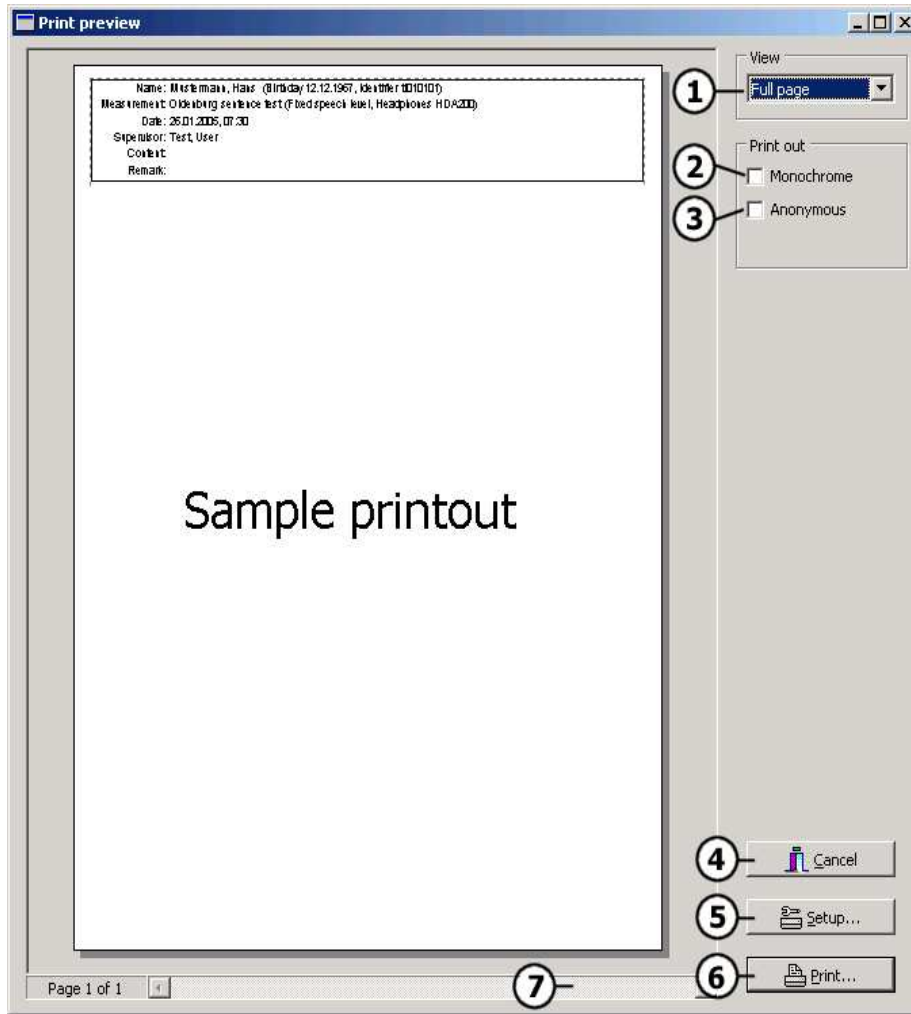

Figure 17
If you click button ⑦ ‘Print’ (see above) the standard printer configuration dialog is shown. If you click button ⑥ ‘Print preview’ a dialog with a print preview containing some controls for the configuration of the printout (Figure 17):